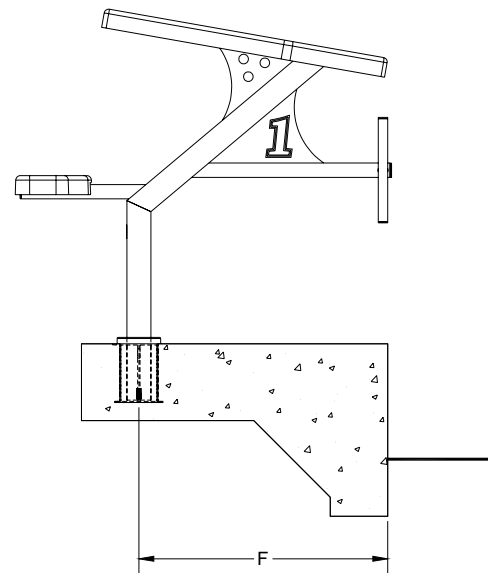

FIGURE 8
2. The setback for the anchor must be set using the correct distance "F" from the pool wall and with at least 6" from any control joint or edge of concrete slab. The correct setback distance depends on the model ordered. When the starting block is installed, the backstroke handles and leading edge of the footboard shall be flush with the pool wall. Refer to **FIGURES 8 & 9**.